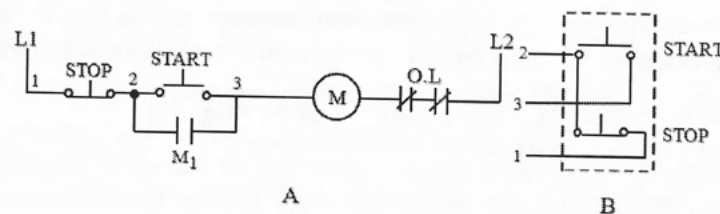

Figure 3 – Three-wire schematic
(Figure 3) – Fault 3: A Resistor in Branch 2 is OPEN
Resistor R_2 is open, see (figure 3). If R_2 is open, there will be no current flow in (branch 2), and the total current from the power source will be reduced to 6A. The full supply voltage will be across R_2 because there is no current in (Branch 2), and there will be zero volts across R_3 .
The sequence of operation for the circuit is (figure 3) is as follows: when the start button is pushed, the circuit is completed through the stop button and coil (M) and the contacts of M close. When the start button is released, the hold contact (M1) keeps the coil energized. With the holding contact closed, the circuit is still complete through the coil. If the stop button is pushed, the circuit is broken, the coil loses its energy and the holding contact (M1) opens. When the stop button is released, the circuit remains open because both the holding contact (M1) and the start button are open. The start button must be pushed again to complete the circuit. The operation of the overload protection will have the same effect, that is, if the supply voltage fails, the circuit is deenergized. When the supply voltage returns, the circuit remains open until the start button again is pushed. This arrangement is called no-voltage protection and protects both the operator and the equipment.